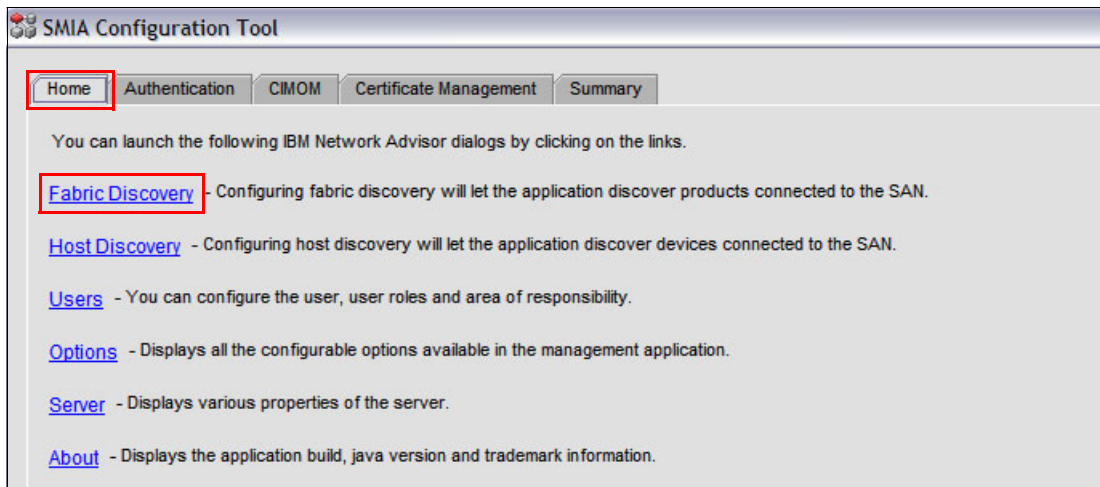

Figure 6-161 SMIA Configuration Tool window
6. Click the **Home** tab, and then click **Fabric Discovery** as shown in the Figure 6-161.